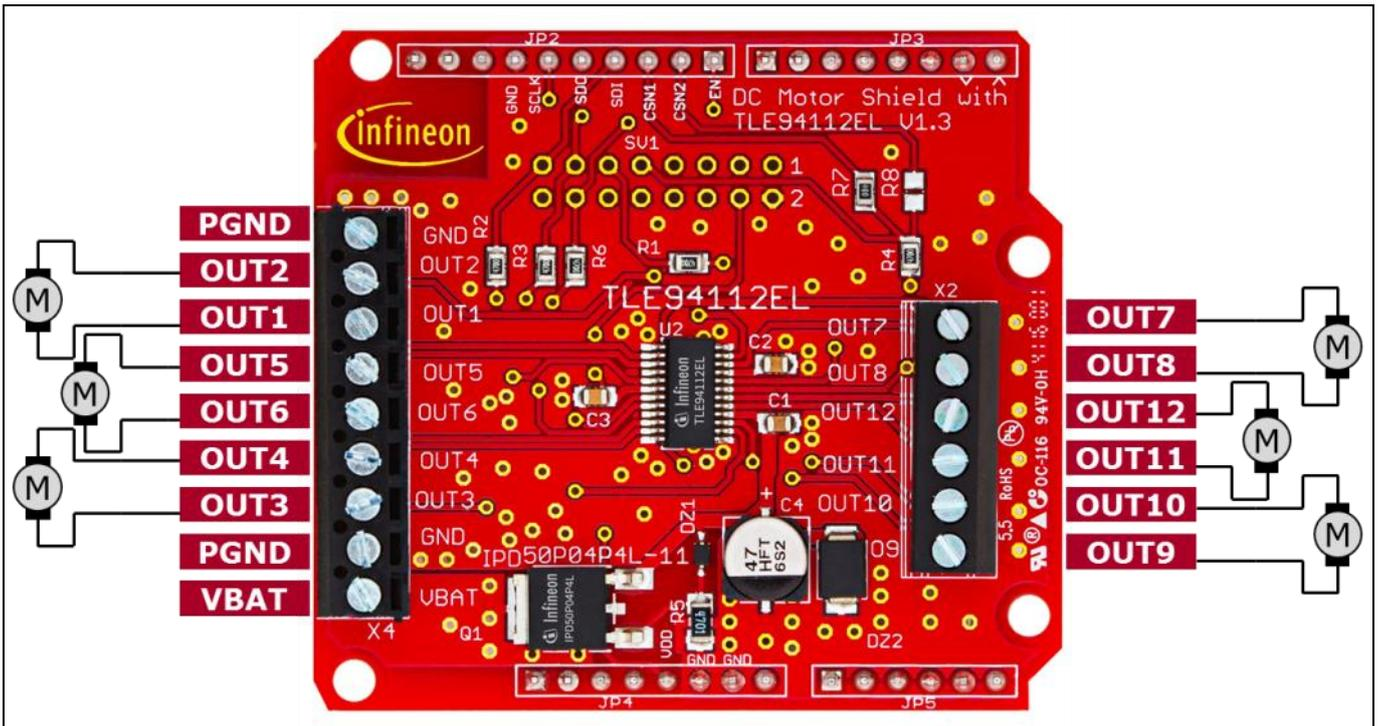

Figure 14 Motor Control Shield connectors
- Connect the brushed DC motors to the corresponding output connectors (OUT_x, x=1... 12). Refer to Figure 14.